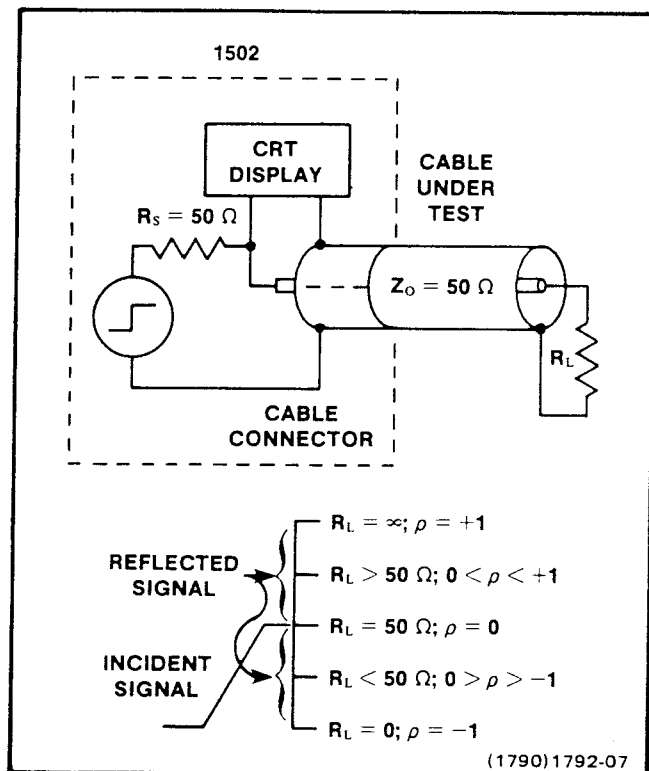
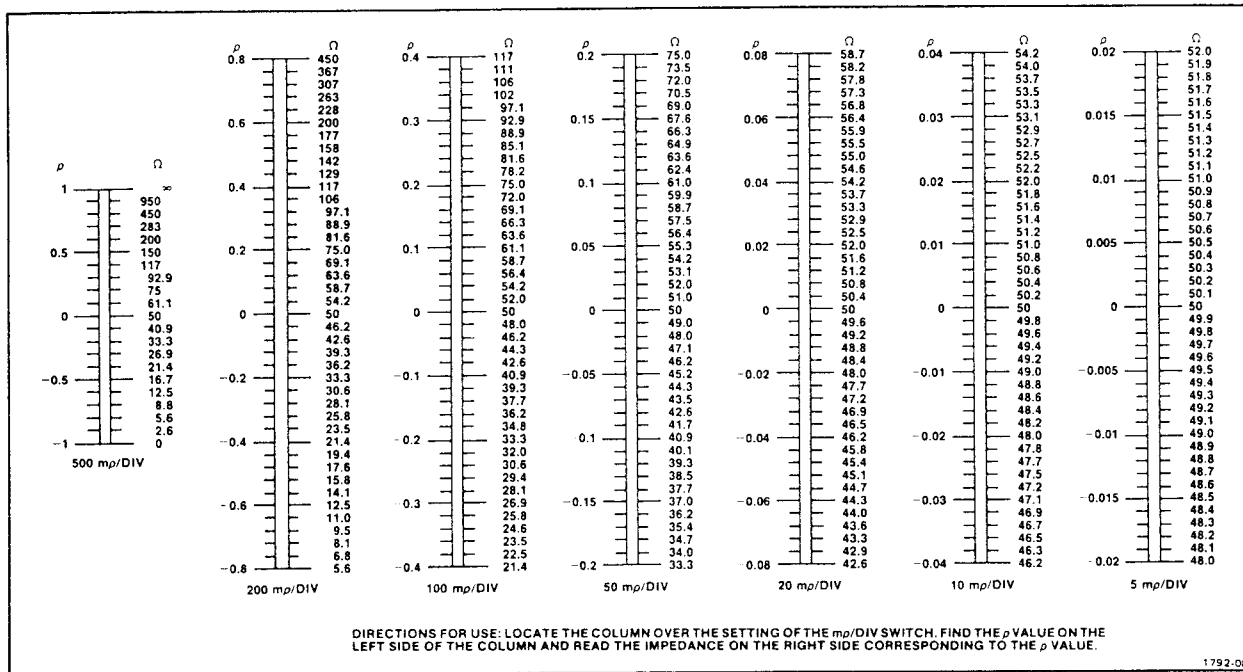

Fig. 2-5. Mathematical Derivation of TDR Display
Fig. 2-6. Impedance Nomograph
- (1) **CABLE:** BNC connector for attaching test cable to instrument.
- (2) **FOCUS:** Controls sharpness of display.
- (3) **INTENSITY:** Controls brightness of display.
- (4) **POSITION/FINE:** Controls vertical positioning of display. Outer control is coarse adjustment; inner control is fine adjustment.
- (5) **m ρ /DIV:** Sets amplitude of test and reflected pulses. Scale is calibrated in rho (ρ) which is used to calculate impedance of discontinuity (see Figure 2-5).
- (6) **POWER:** Main power switch (pull on, push off). Does not affect battery charging circuits when power cord is plugged in.
- (7) **GAIN:** Screwdriver adjustment for presetting reference amplitude of test pulse.
- (8) **NOISE FILTER:** Use to increase clarity (reduce amount of noise) in display. Reduces sweep rate by a factor of 10.
- (9) **BATTERY:** Indicates relative charge of battery pack.
- (10) **ZERO REF (CHECK):** Use to verify horizontal reference position of leading edge of test pulse on CRT when DISTANCE dial is in use.
- (11) **ZERO REF (SET):** Sets horizontal reference position of leading edge of test pulse on CRT (DISTANCE dial must be set at 000). Standard reference position is on the "vertical reference line" (vertical graticule line with arrow).
- (12) **X.1-X1 Multiplier:** Two-position control that multiplies settings of both DISTANCE dial and FEET/DIV control by .1 and 1 respectively. Example: FEET/DIV set at 20 and multiplier set at X1 = 20 feet per each horizontal division on CRT. *Note: use the X1 multiplier whenever possible to lessen the effect of jitter.*
- (13) **DISTANCE:** Allows more accurate measurement, especially if cable is over 1000 feet long. When DISTANCE dial is turned, display on CRT moves down cable. Disabled when FEET/DIV control is set at 200 (FIND).
Figure 2-5 shows a display identifying test and reflected voltage signals. When $\rho=0$, the test cable is terminated by a resistance equal to its characteristic impedance (Z_0) which, in this case, is 50Ω . When $\rho=+1$, the cable has an open circuit. When $\rho=-1$, the cable has a short. If the cable's impedance is greater than 50Ω , ρ is positive; If the cable's impedance is less than 50Ω , ρ is negative. Use the chart in Figure 2-6 to convert rho to impedance, or use the slide rule supplied with the instrument.
Effective Impedance: The center portion of the calculator is used to determine the effective impedance of a cable. It is similar in content to the nomograph in Figure 2-6. The scales on the stationary portion of the rule correspond to the instrument setting and the graticule lines on the CRT. If the reflective pulse is calibrated to measure loss (baseline centered), the effective impedance can be determined. For example the instrument setting is 100 mp/DIV, the loss is measured at .1 rho (1 division). Use the .10 rho column on outer portion of the rule. The sliding portion of the rule is the load impedance. Set the slider so the 50 Ω mark is at 0 (mid-point on the scale). Then, reading the loss in rho from the CRT, match the number of divisions of loss on the CRT with the effective impedance of the cable. e.g. Loss of .1 rho yields an effective impedance of 60 Ω .